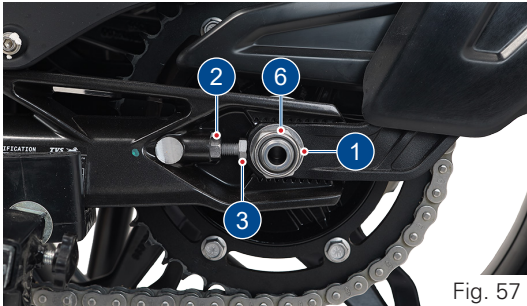

Fig. 57
- Turn the adjuster screws (4 & 5) 'in' or 'out' to obtain the specified slackness in the chain (ref. Fig. 57 & 58).
- Similarly, tighten the rear axle nut and lock nut to the specified torque, and check and ensure the chain slackness (ref. Fig. 57 & 58).